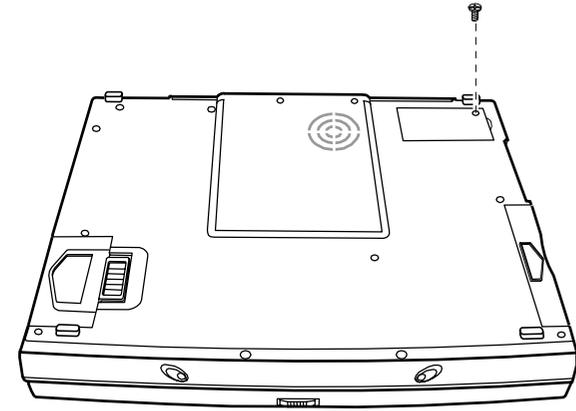

Figure 5-18. Removing the Modem/LAN Card Compartment Cover
2. Remove one screw and open the Modem/LAN card compartment cover. (Refer to Figure 5-18)
(Refer to Figure 5-18 earlier.)